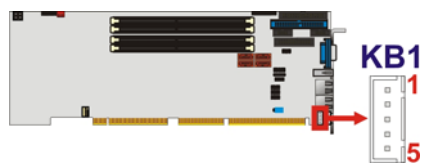

Figure 3-12: Keyboard Connector Location
- CN Location:** See Figure 3-12